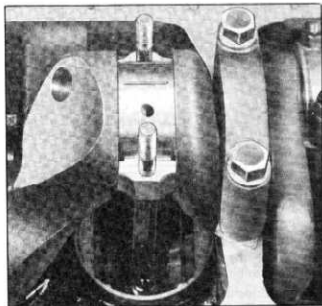

Fig. 70—Plastigage on Crankpin
3. Place a piece of Plastigage the full width of the bearing or crankpin (parallel to the crankshaft) (fig. 70).